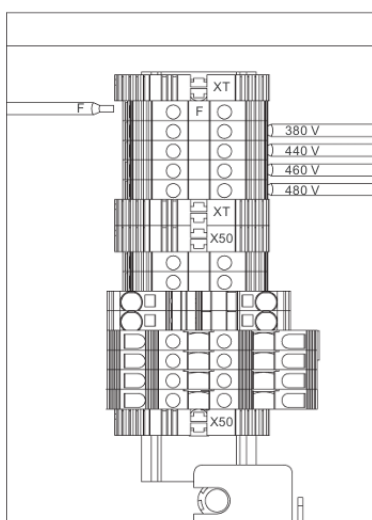

Figure 3.14: Setting the supply voltage
2. Locate the XT terminal block next to the power circuit breaker. (Figure 3.14 on page 3-14).